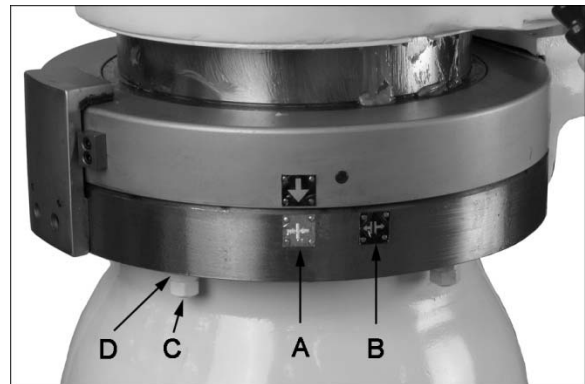

Figure 14
Refer to Figure 14.
1. Press and hold the *unlock button* (see Figure 10) until the arrow (Figure 14) points to "B". Release the button. The clamping device is now disengaged.
2. Loosen the five *locking nuts* (C).
3. Turn the five upper *adjusting nuts* (D) counterclockwise (i.e. tighten them up against the clamping ring) approximately 180°.
4. Re-tighten the five locking nuts (C).
5. Press and hold the *lock button* until the arrow returns to (A). The clamping device is now engaged.